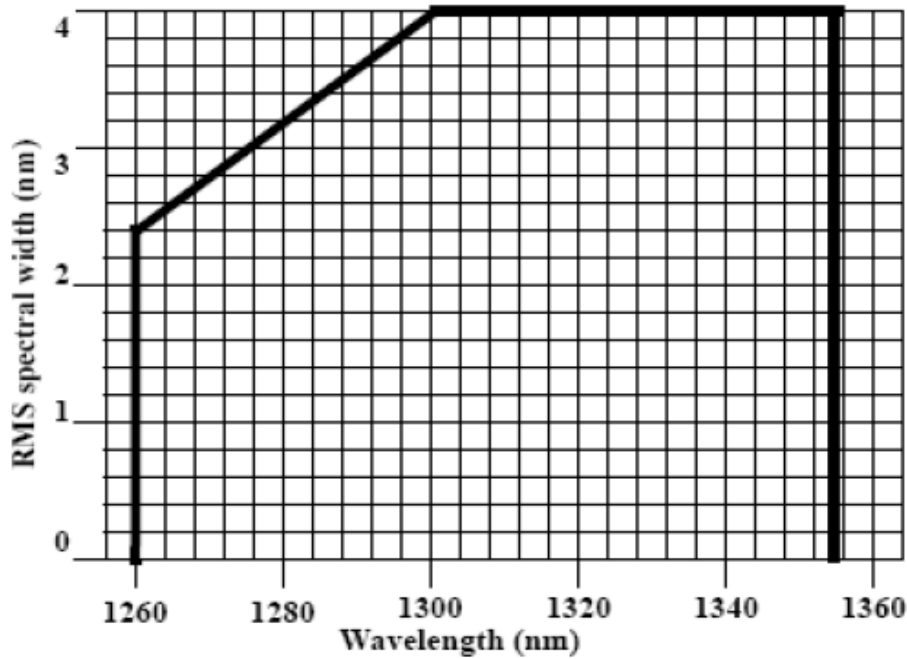

Figure 3
2. Maximum RMS spectral width as specified by Figure 3